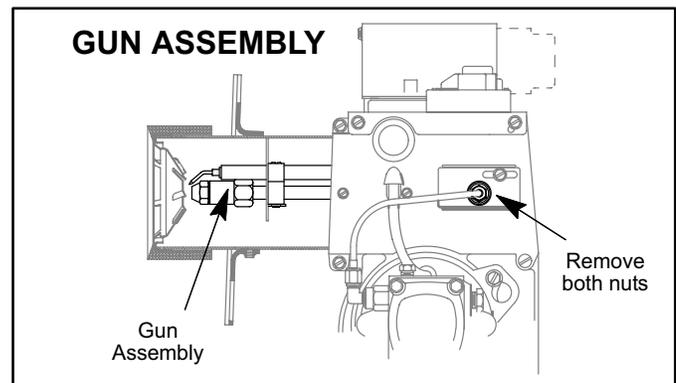

FIGURE 22
- 3- Remove nut connecting oil line to gun assembly oil line. See figure 22.